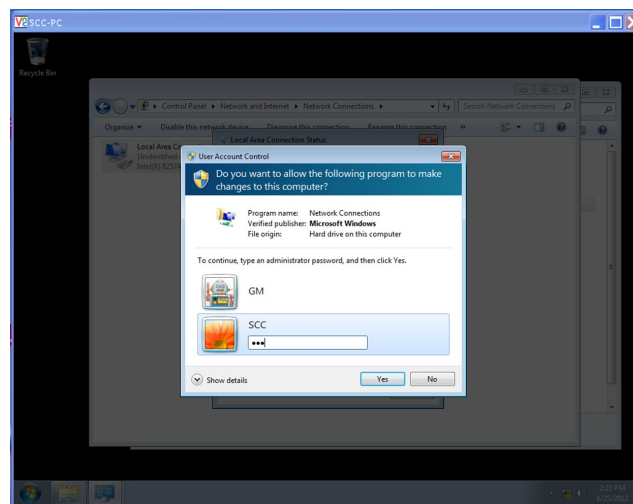

Figure 7 – VNC Viewer Software App, User Account Password
4.4.3 Click the Properties button as illustrated above and you will be prompted to enter a user account password for User:SCC Password: scc, illustrated in Figure 7 below.